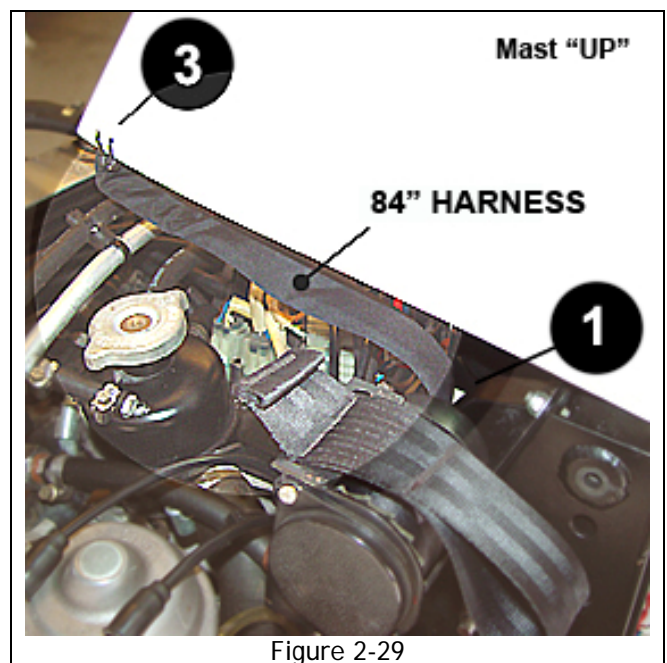

Figure 2-29
2.20 Figure 2-29 shows the 84" Safety Harness and its tension between points ❶ and ❸ and the vertical mast positioned "UP".